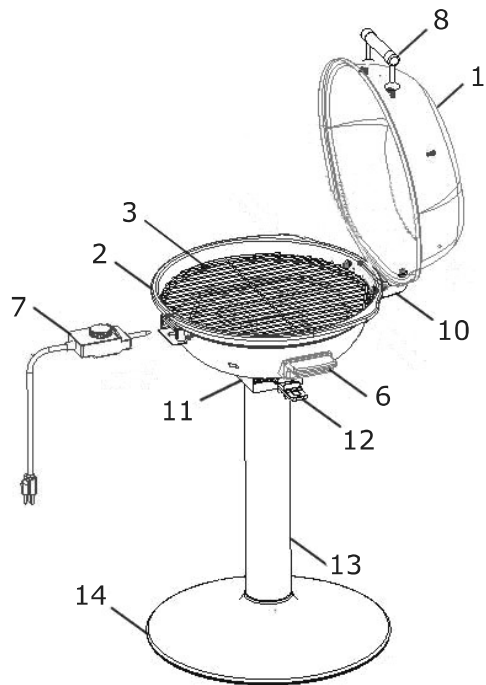

Figure 1
1. Make sure the temperature control knob is fully turned to the "OFF" position.( Fig.1 part 7)